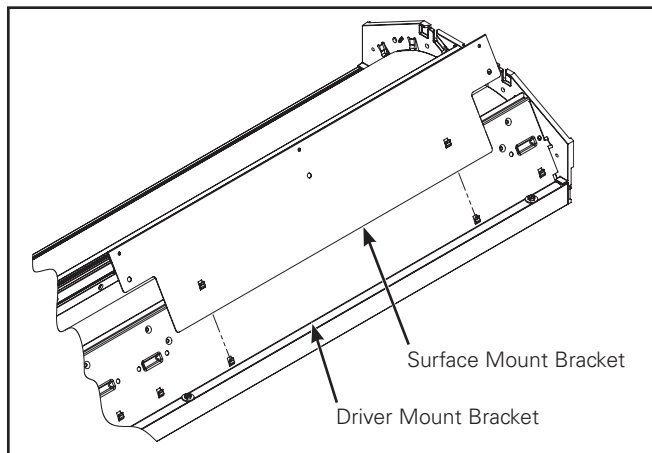

Figure 2.
2. Insert the surface mount accessory bracket into tabs in driver mount bracket (Figure 2).